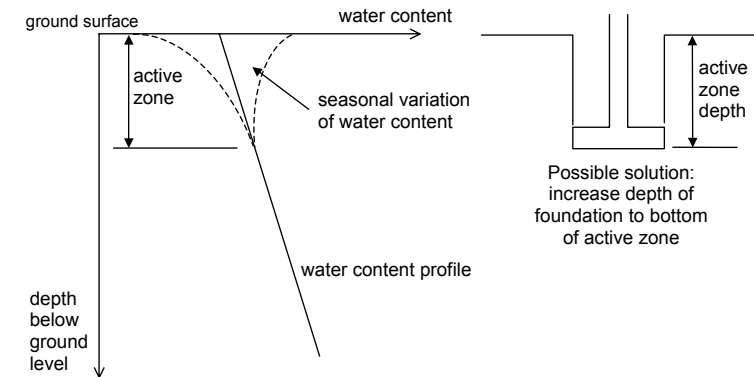

Figure 2: Seasonal variation of water content and active zone
2. Take samples of the clay at different depths under the proposed foundation at different times of the year and measure their water content. This will tell you the seasonal variation of water content and to what depth these changes occur (the *active zone* see Figure 2). If part or all of the seasonal variation in water content occurs above the plastic limit, then some changes to the foundation design will be required.